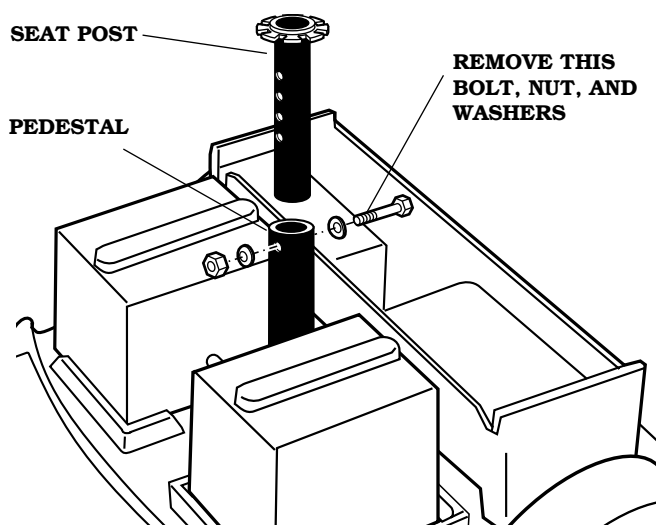

FIGURE 16. REMOVING THE SEAT POST
1. Remove the nut, bolt, and washer. See Figure 16.